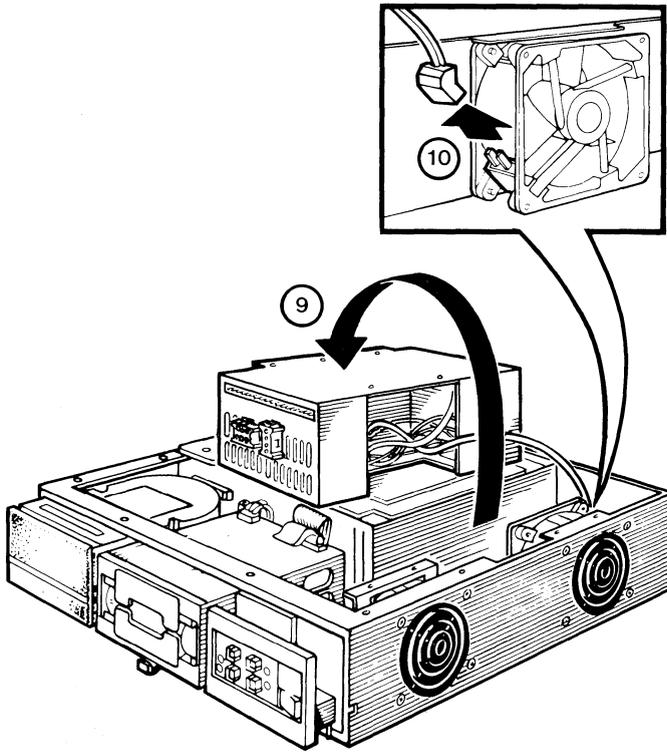

Figure 6-21 Remove Power Supply and Fan Connector
9. Lift the power supply assembly out of the chassis and rest it on top of the Q22-Bus modules cover (Figure 6-21).